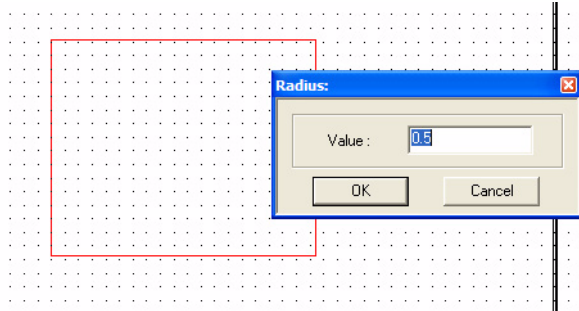

Figure 165
- 3 In the **Radius** box, assign a value to apply to the corner and then click **OK**. To change this value later, double-click on the computer screen. See figure 165.